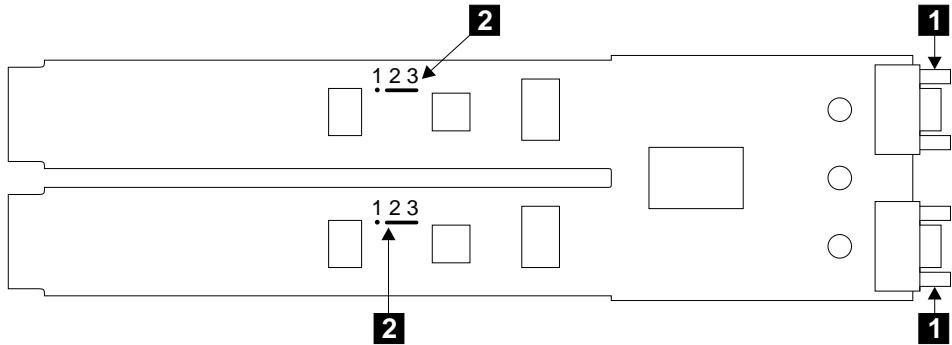

Figure 47. Bypass Card Set for Automatic Mode
5. Refer to Figure 47.
7. Note that, in Figure 47, the jumpers are set for **Automatic Mode**. That is, the jumpers **2** connect pins 2 and 3.
- a. Remove the jumpers, and install them into the required positions (see figures 47 and 48).